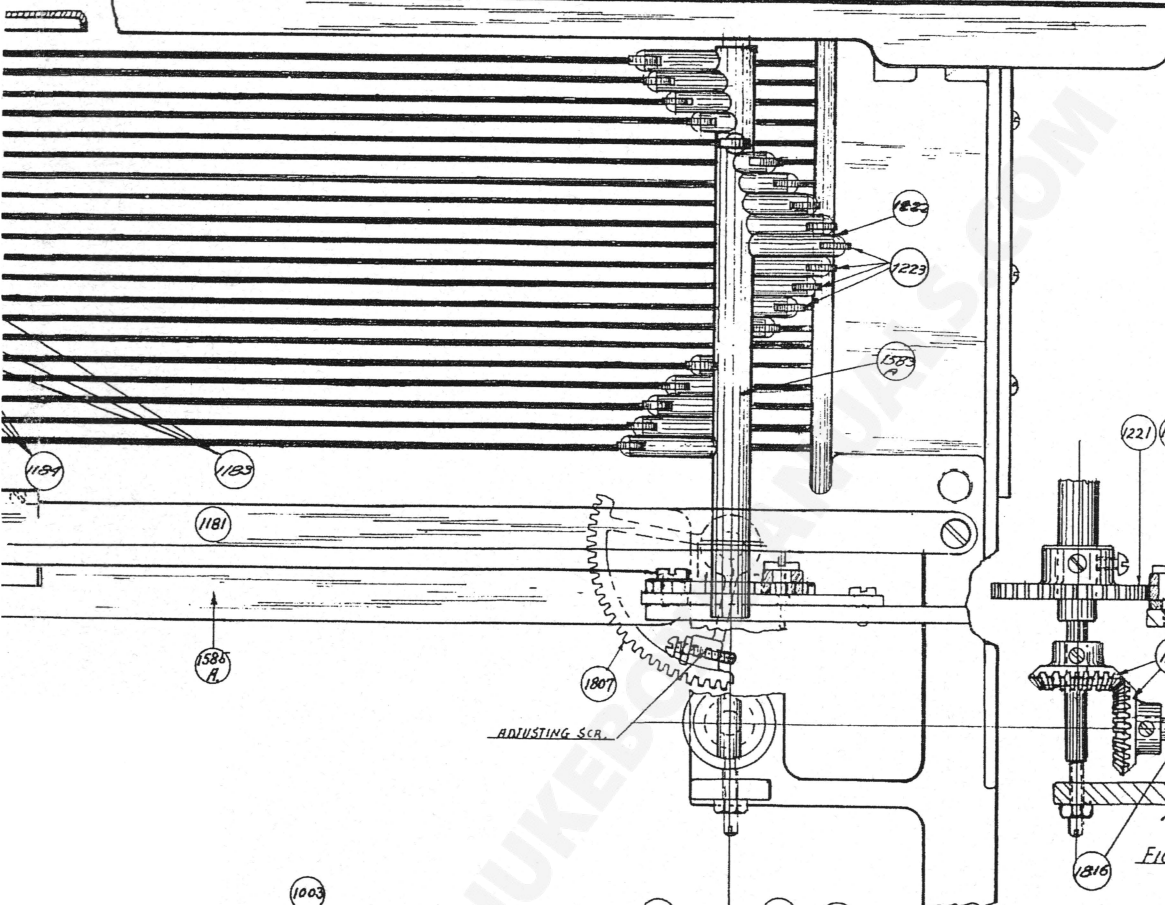

Fig. 11
By marking the sprocket No. 1221, Fig. 11, with a pencil at the last position of the roller No. 1822 and watching the rotation of sprocket with mechanism in operation, the amount of rotation may be determined. Proper adjustment of same can be made by means of adjustment screw in segment gear No. 1807, Fig. 3, that controls the amount of travel of the segment gear. The amount of travel of this segment gear determines the amount of rotation of the selector helix - when no selection is made.
- (3) Helix No. 1583A should stop after being rotated in such a position that the helix lock roller No. 1125, Fig. 11, rests in the recess of the sprocket No. 1221.
See that all selector keys are in cancelled position. In other words, that no selection is made. Then place roller No. 1822, Fig. 11, in one of the recesses of the sprocket No. 1221, put a pencil mark on sprocket at point where roller is in contact - then start mechanism in motion, and watch the rotation of the sprocket. It must turn  $21/20$  of a revolution, or one recess of the sprocket past the